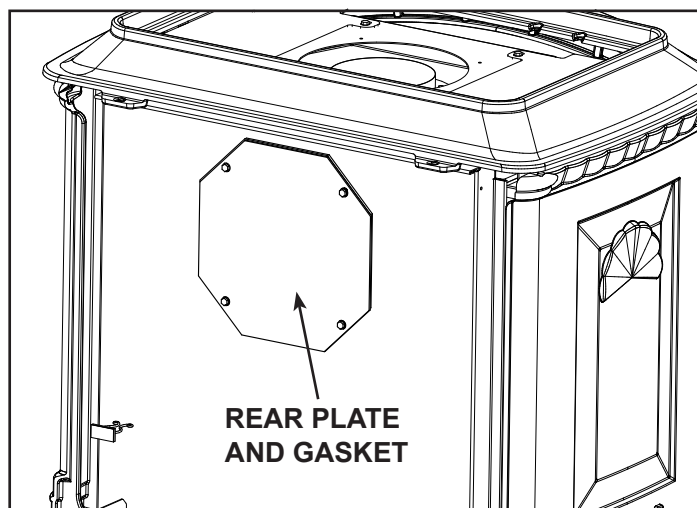
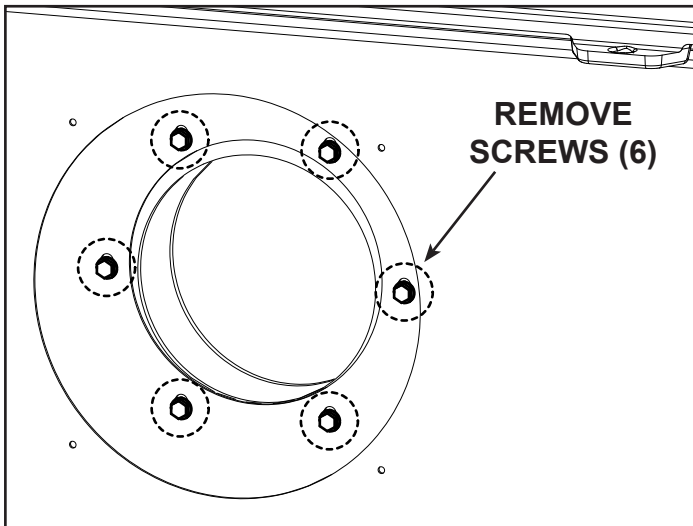
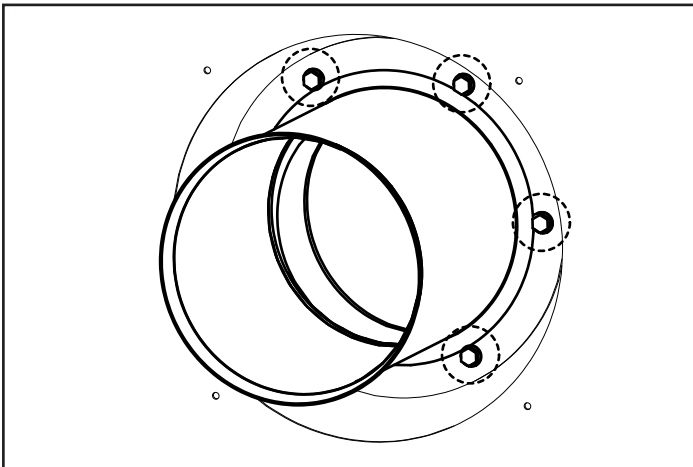

Figure 6.5
Figure 6.7. Remove Screws Under Rear Access Plate
Figure 6.8. Attach inner collar adapter to rear flue vent.
2. Remove vent pipe adapter and gasket by removing 4 screws. Save the screws. (If gasket breaks, apply high-temp sealant to bottom of adapter before installing as shown in Figure 6.8.)
5. Remove rear access plate and gasket by removing four screws. Save the screws. See Figure 6.5.
7. Remove six screws under the rear access plate removed in Figure 6.5. See Figure 6.7. Install inner pipe adapter and new gasket (included with kit) using six screws. See Figure 6.8.
8. Install starting collar with gasket or high-temp sealant to rear vent opening. Attach with screws removed in Figure 6.5. Place grille gently into the opening on top of appliance. The grille does not have a hole and is included with the kit.